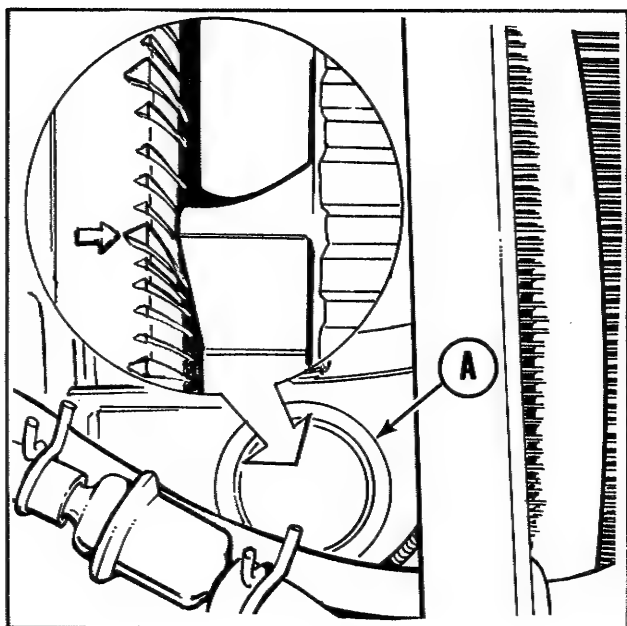

Figure 33. Timing access hole in engine air shroud.
2. See figure 33. Remove the plastic plug from the timing hole (A).
3. See figure 33. Place a white chalk or paint mark on the 20° timing mark. **CAUTION: SINCE THE ENGINE MUST BE RUNNING WHEN THE OPERATOR IS NOT ON THE TRACTOR SEAT, BE SURE THE GEAR TRANSMISSION IS IN NEUTRAL AND THE PARKING BRAKE SET BEFORE STARTING THE ENGINE.**